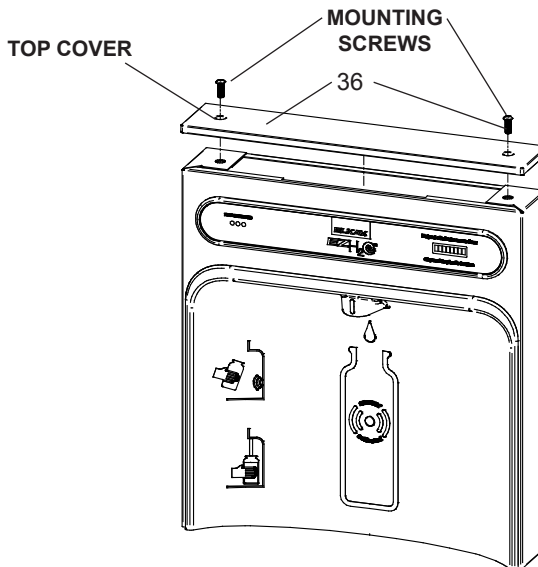
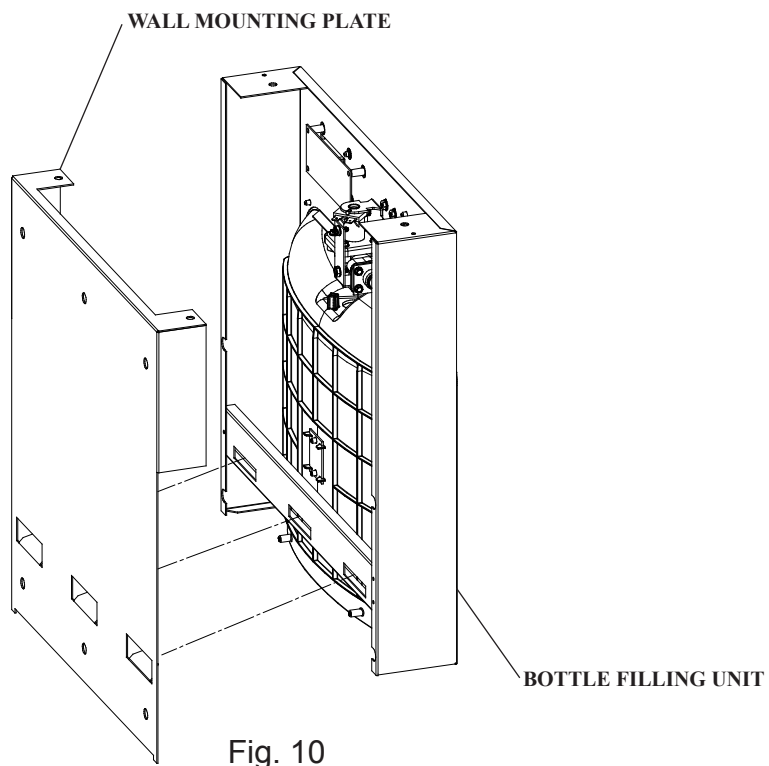

Fig. 6
Fig. 10
- 1) Remove two (2) mounting screws with 5/32" Allen wrench holding top cover to Bottle Filler (See Fig. 6). Remove top cover. Note do not discard mounting screws, they will be needed to reinstall top cover.
- 10) With the power cord, wire(s), and waterline through hole on top of water cooler place Bottle Filler on the three (3) angled tabs protruding from the wall mounting plate, installed on wall. Make sure round boss in gasket fits in hole of basin. (See Fig. 10).
- 11) Once Bottle Filler is installed on wall plate tabs, water line, wire(s) and power cord are installed properly, push top of Bottle Filler toward wall and line up top cover two (2) holes.
- 12) Reinstall Top Cover on Bottle Filler (See Fig. 6) with two mounting screws from step 1 above. Caution, do not over tighten screws.